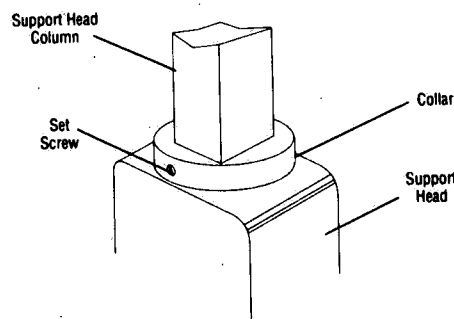

Figure 3-12. Rotational Stop "D" - All Motorized Models
- All motorized models and some fixed height models are equipped with a rotational stop adjusted by loosening a set screw in the collar (see Figure 3-12) as follows.
2. Loosen set screw in collar (see Figure 3-12).